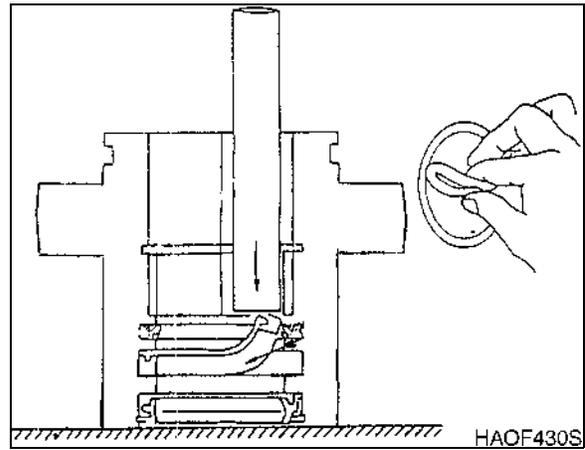

Figure 31
3. Pre-lubricate O-rings and seals before reassembly (Figure 31).